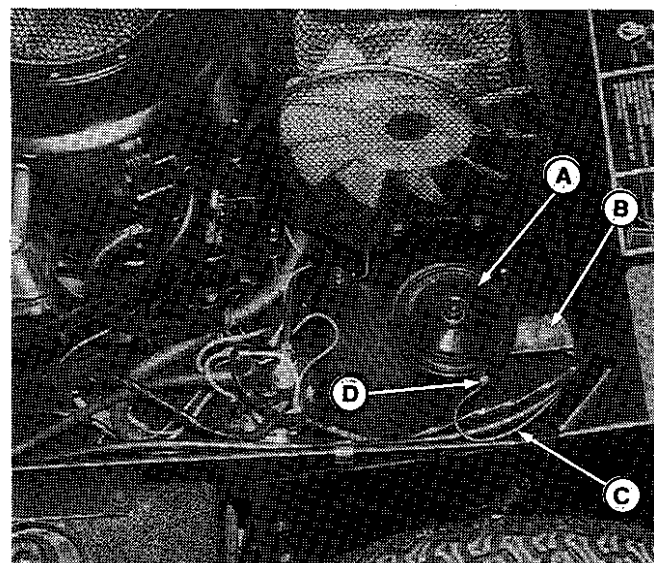

Figure 4. **Hydro** Models
3. Install the horn as shown in figure 4 as follows.
- b. Remove this existing screw, and install new 5/16-18 x 1 screw (F), being sure the retainer is in original position.
- c. Place the horn assembly into position onto the screw and install the flange whizlock nut(E). The horn should appear as in figure 4.
4. Connect the 45-inch wire(C) to either horn terminal (D). Route the wire, under the footrest as shown.